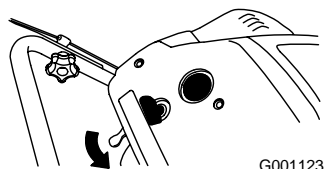

Figure 14
2. Move the choke lever to the right (Figure 14).